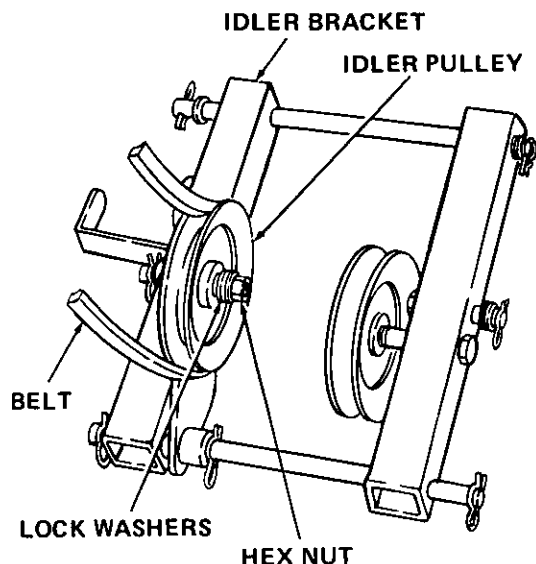

Figure 5
- a. Install new V-belt (3-1) on idler bracket by removing hex nut and washers which secure idler pulley to idler bracket. Refer to Figure 5. Slide pulley off and remove V-belt. Reassemble using V-belt (3-1).